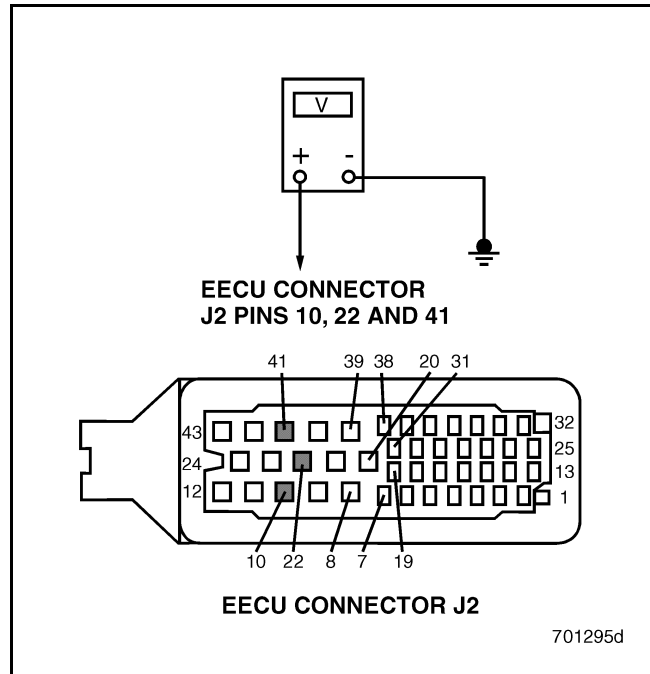

Figure 622
4. Measure the voltage between EECU connector J2 pins 10, 22 and 41 and a good ground (see Figure 622).